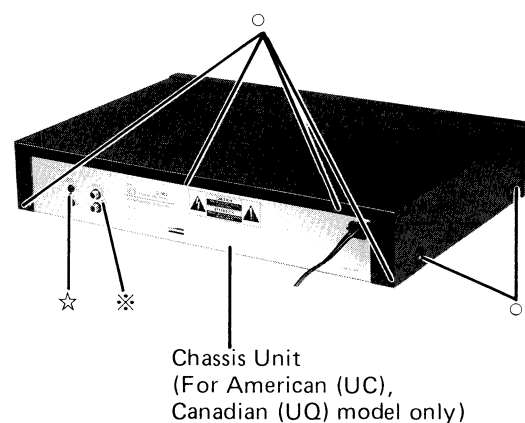

Figure 5-1
- (1) After removal of the mechanism assembly, remove three screws marked "※" as shown in Figures 5-1 and 7.
- (2) Disconnect all wires from the P.C. Board
- (1) Remove one screw marked "☆" as shown in Figure 5-1.
- (2) Disconnect all wires from the P.C. Board.